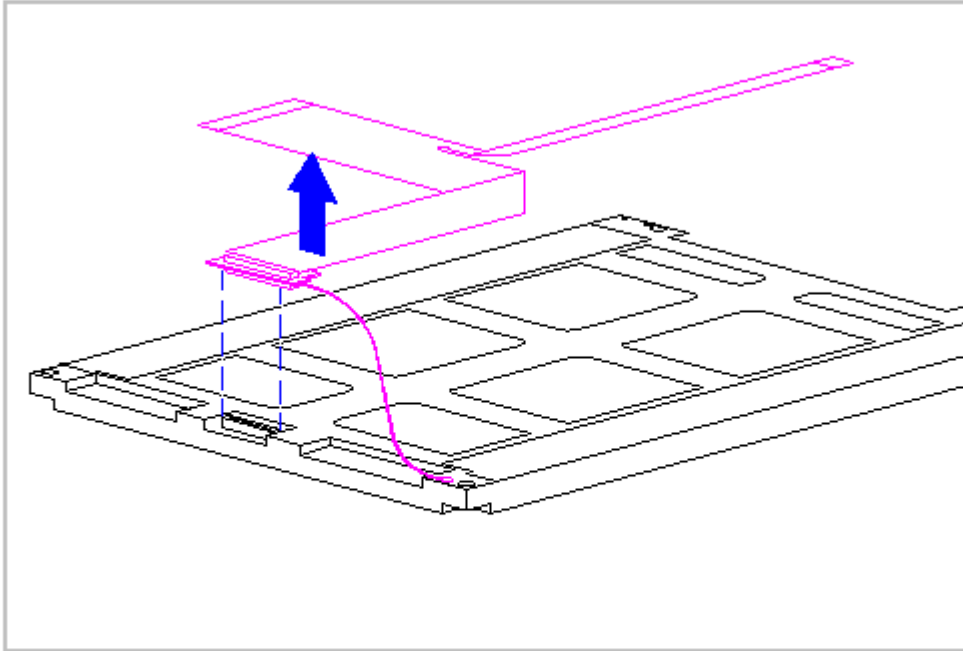

Figure 5-89. Removing the Display Cable from the CSTN (10.4 in) Panel
16. Disconnect the display cable from the connector on the back of the CSTN (10.4 in) panel (Figure 5-89).